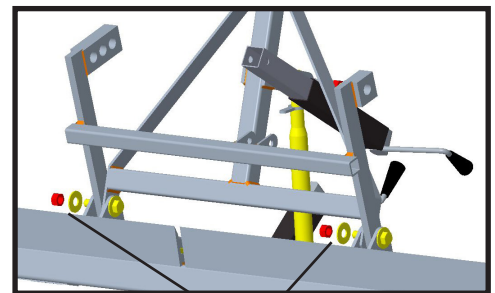

Fig 4.
4. Remove both nuts and washers that mount the wheel axle assembly and Body Frame to the Scar/Profile Blade weldment (leave both bolts in place until both nuts are removed) using (2) 1-1/8" wrenches (or socket set) (**Fig 4**).